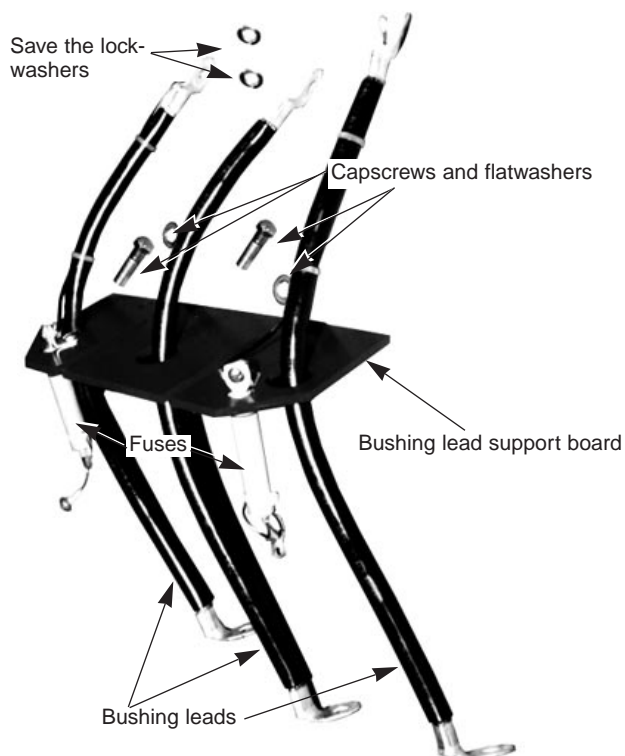

Figure 9.
B. Remove and discard the bushing lead support board, the three black bushing leads, and the two fuses (refer to Figure 9).